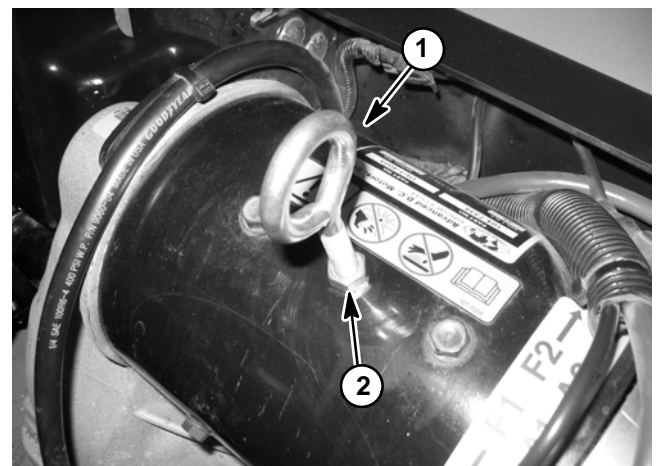

Figure 53
A. Remove silver flange head screw from top of motor and carefully install a 3/8 - 16 eyebolt into motor (Fig. 53). Thread eyebolt into motor approximately four (4) turns taking care to not bottom eyebolt into internal field coils. Secure eyebolt with jam nut. Use eyebolt for support and as a lifting point for motor removal.
7. Remove six (6) socket head screws (item 1) and flat washers (item 2) that secure motor to transaxle.
10. If needed, remove two (2) roll pins from motor shaft.